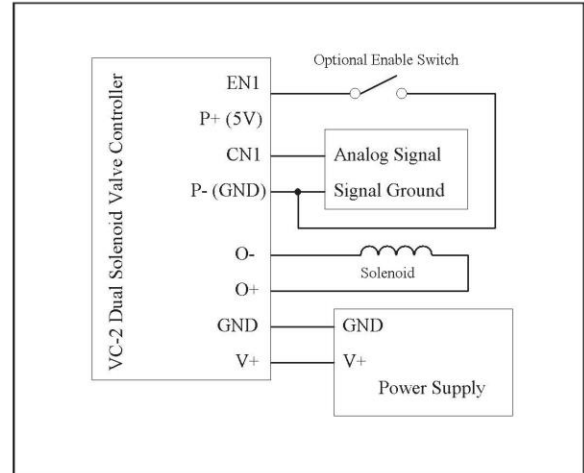

Figure 5. Potentiometer Connections
- Alternative setpoint signal control for VC-2P only is to connect a potentiometer high to P+ (5 VDC signal), potentiometer low to P-, and the wiper to CN1. This will attenuate a 5 VDC signal to some fraction between 0-5 VDC. It is recommended the potentiometer used is between 1 and 30 kOhm, with 10 kOhm being the nominal value (See Figure 5).